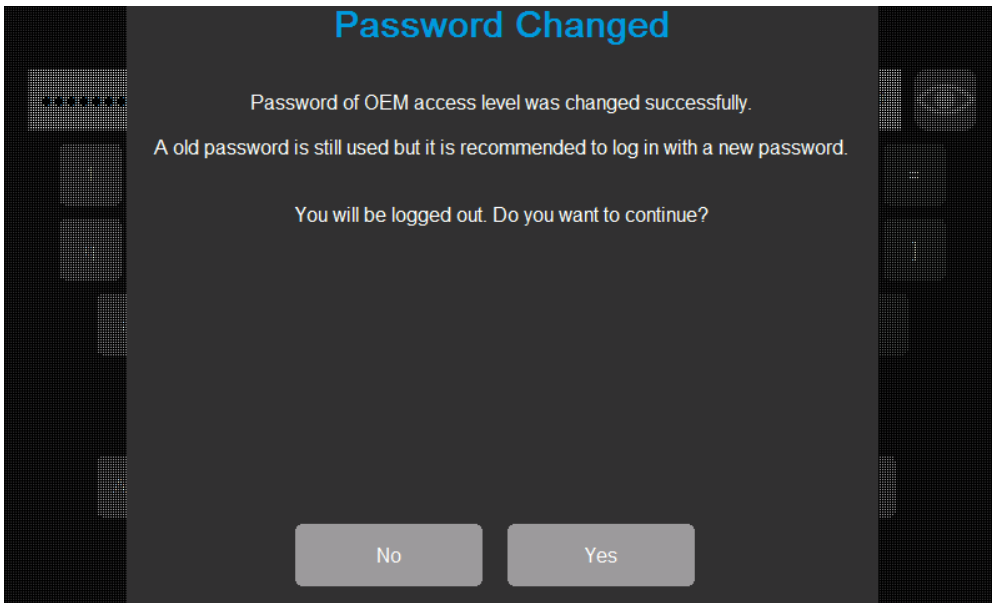

Fig. 74: OEM Password Changed confirmation dialog box.
6. When the OEM password is changed, the Password Changed dialog box opens. Refer to Fig. 74.